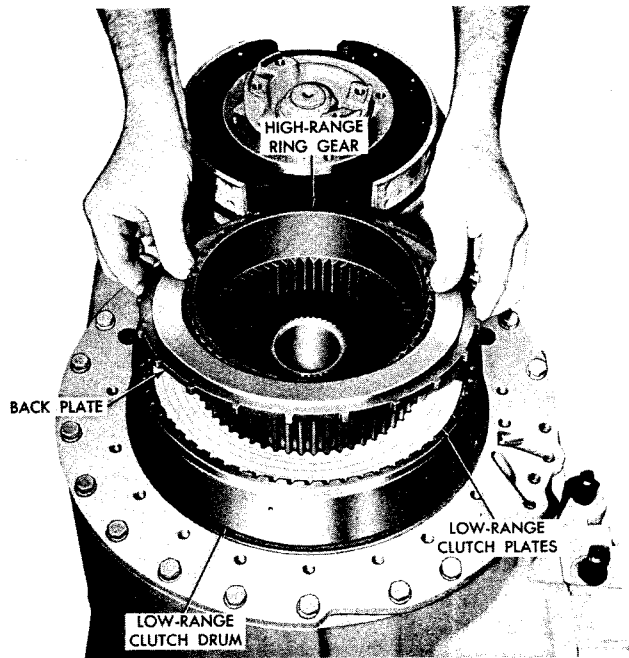

Fig. 7-10. Installing low-range clutch back plate (-1 model)
(5) Beginning with an external-splined plate, alternately install three external- and three internal-splined, low-range clutch plates (fig. 7-10).
(6) Install the low-range clutch back plate, flatside first, into the low-range clutch drum (fig. 7-10).